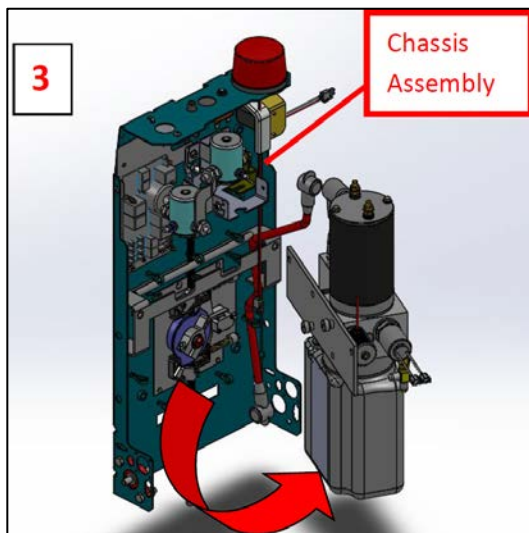

Figure 3: Pull Pump Away from Chassis for Access
5. With the pump on a flat surface, slide the pump assembly over slightly to access the CAM. See **Figure 3**.